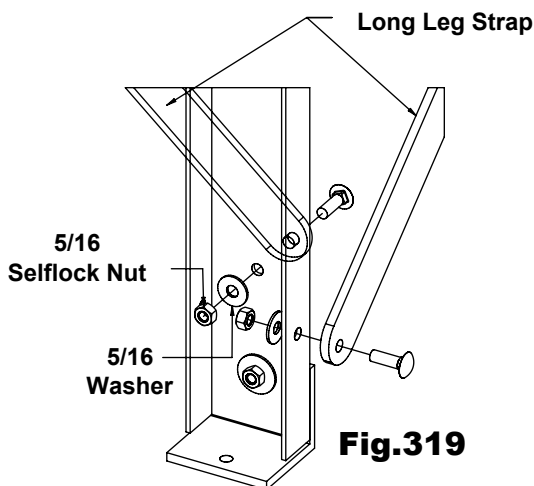

Fig.3.19
3.7.2 PLATFORM LONG LEG SUPPORT (*STRAP*): Once platform assembly has been completed the long leg support straps can now be attached. First attach support strap to leg channel using the holes in the leg channel fasten with 5/16x1 carriage bolt, washer, and selflock nut (**Fig.3.19**). Next select the slotted hole in the bottom support angle best suited for platform application and fasten with a 5/16x1 carriage bolt, washer, and selflock nut. (**Fig.3.20**). **NOTE:** Some applications may require drilling a hole in the leg channel to attach the long leg support straps.